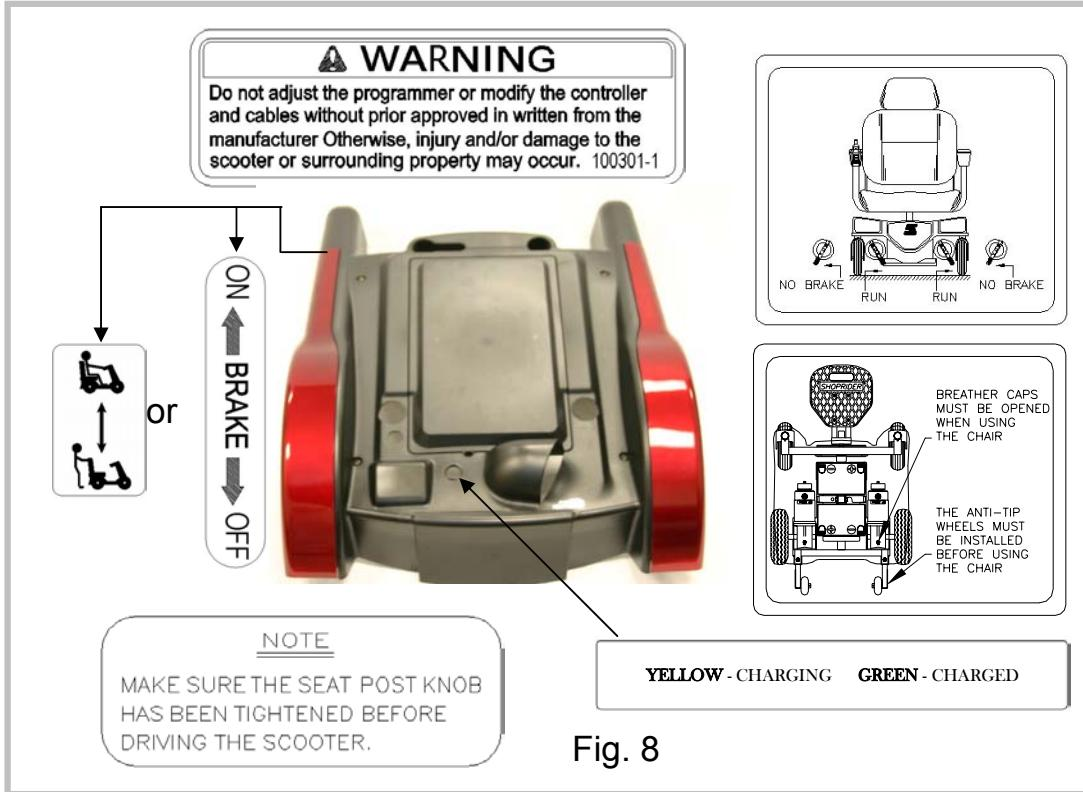

Fig. 8
- (1) **Do not** drive the Powerchair without reading this instruction manual.
- (2) **Do not** exceed the safe climbing maximum angle (Table 2).
- (3) **Do not** use the joystick in an erratic manner when going up or down an incline.
- (4) **Do not** carry passengers or exceed the maximum user weight (Table 2).
- (5) **Do not** turn off the joystick controller by switching the On / Off Button when moving at speed. This will bring the electromagnetic brakes on immediately and could cause damage to the joystick controller.
- (6) **Do not** drive over deep and soft terrain (soft dirt, loose gravel, deep grass).
- (7) **Do not** attempt to mount a curb height above 50mm (2") unless the Curb Skippers are installed (before using, refer to page 10, Fig.8).
- (8) **Do not** mount or dismount the Powerchair unless the electromagnetic brakes are engaged and the joystick controller is off.
- (9) **Do not** operate the Powerchair if the unit is in freewheel mode.
- (10) **Do not** use on the road, except when crossing between sidewalks.
- (11) **Do not** sit on the Powerchair when in a vehicle, but transfer to a vehicle seat.
- (12) **Do not** exceed any grade over 8 degrees (14%).
- (13) **Always** stop fully before changing forward or reverse direction.
- (14) **Always** engage a slow speed when going down gradients (move the joystick slowly towards center position to reduce the speed).
- (15) **Always** approach and climb over curbs at slow speed.